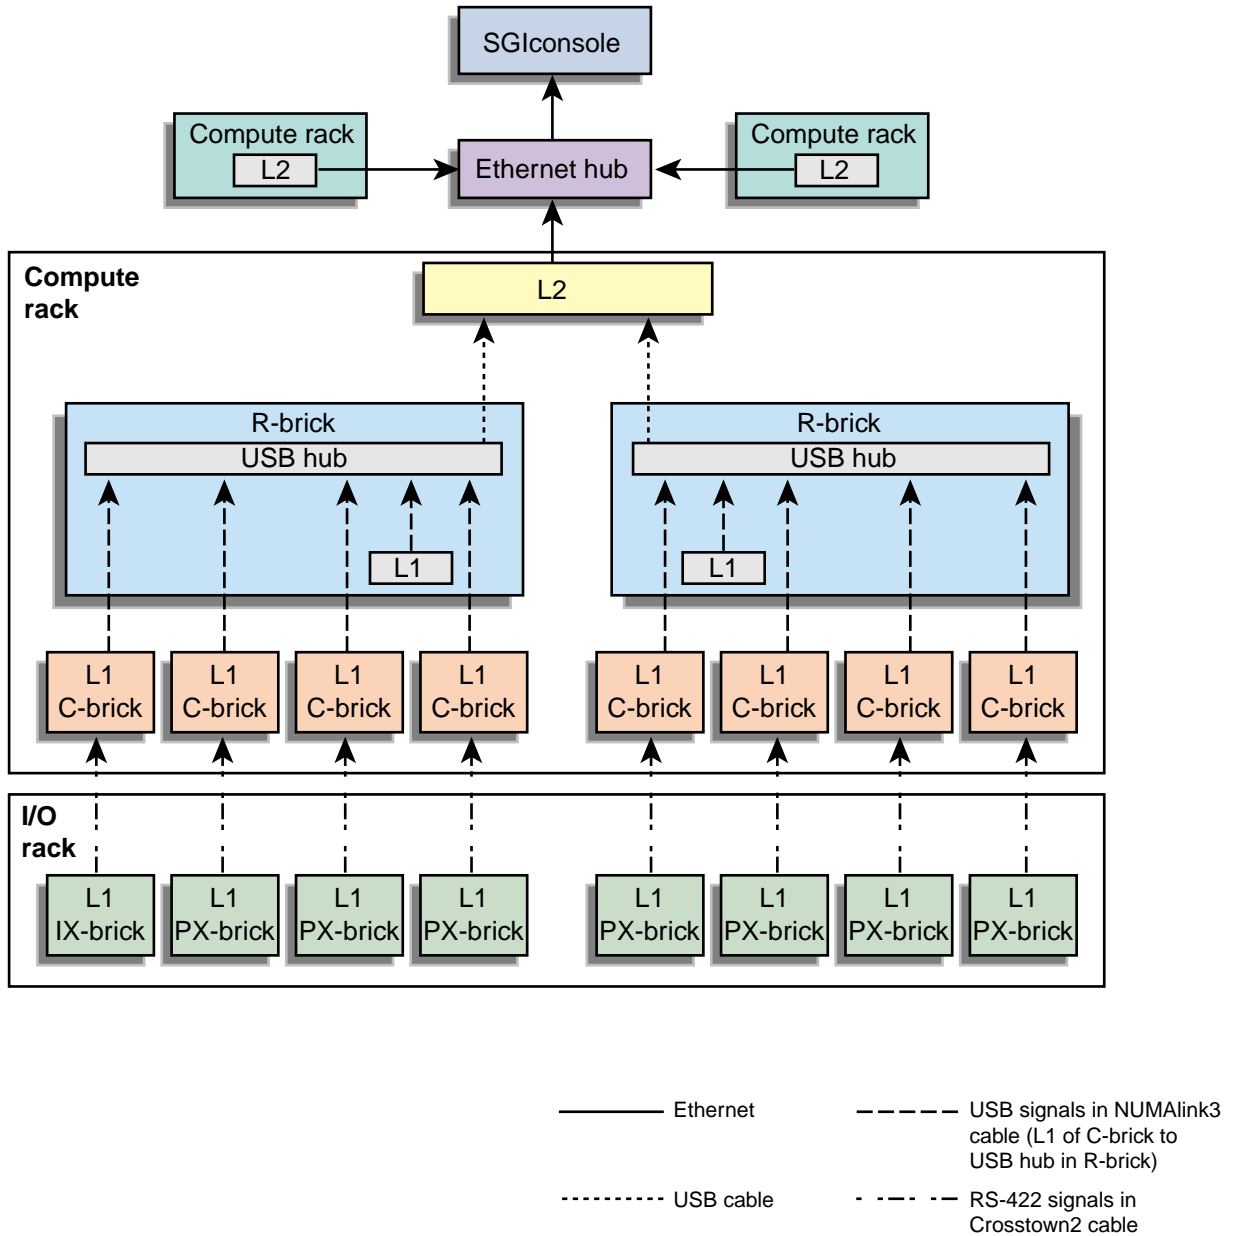

Figure 2-2 Controller Network
- If you have an Altix 3000 server with multiple L2 controllers, they and a system console (like the SGIconsole) can connect with each other through an Ethernet hub and through an Ethernet network as shown in Figure 2-2.
Figure 2-2 diagrams the paths for interaction between the L1 and L2 controllers.